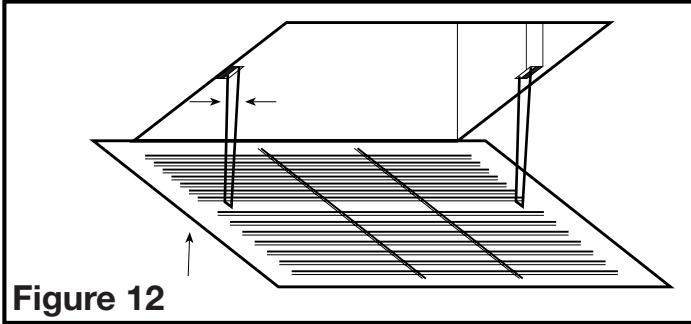

Figure 12
2. **4" Inline Kits:** Install the grill into the inlets by squeezing the two ends of the springs together and installing them up into the slots of the fan. Push the grill up into position (Figure 12).